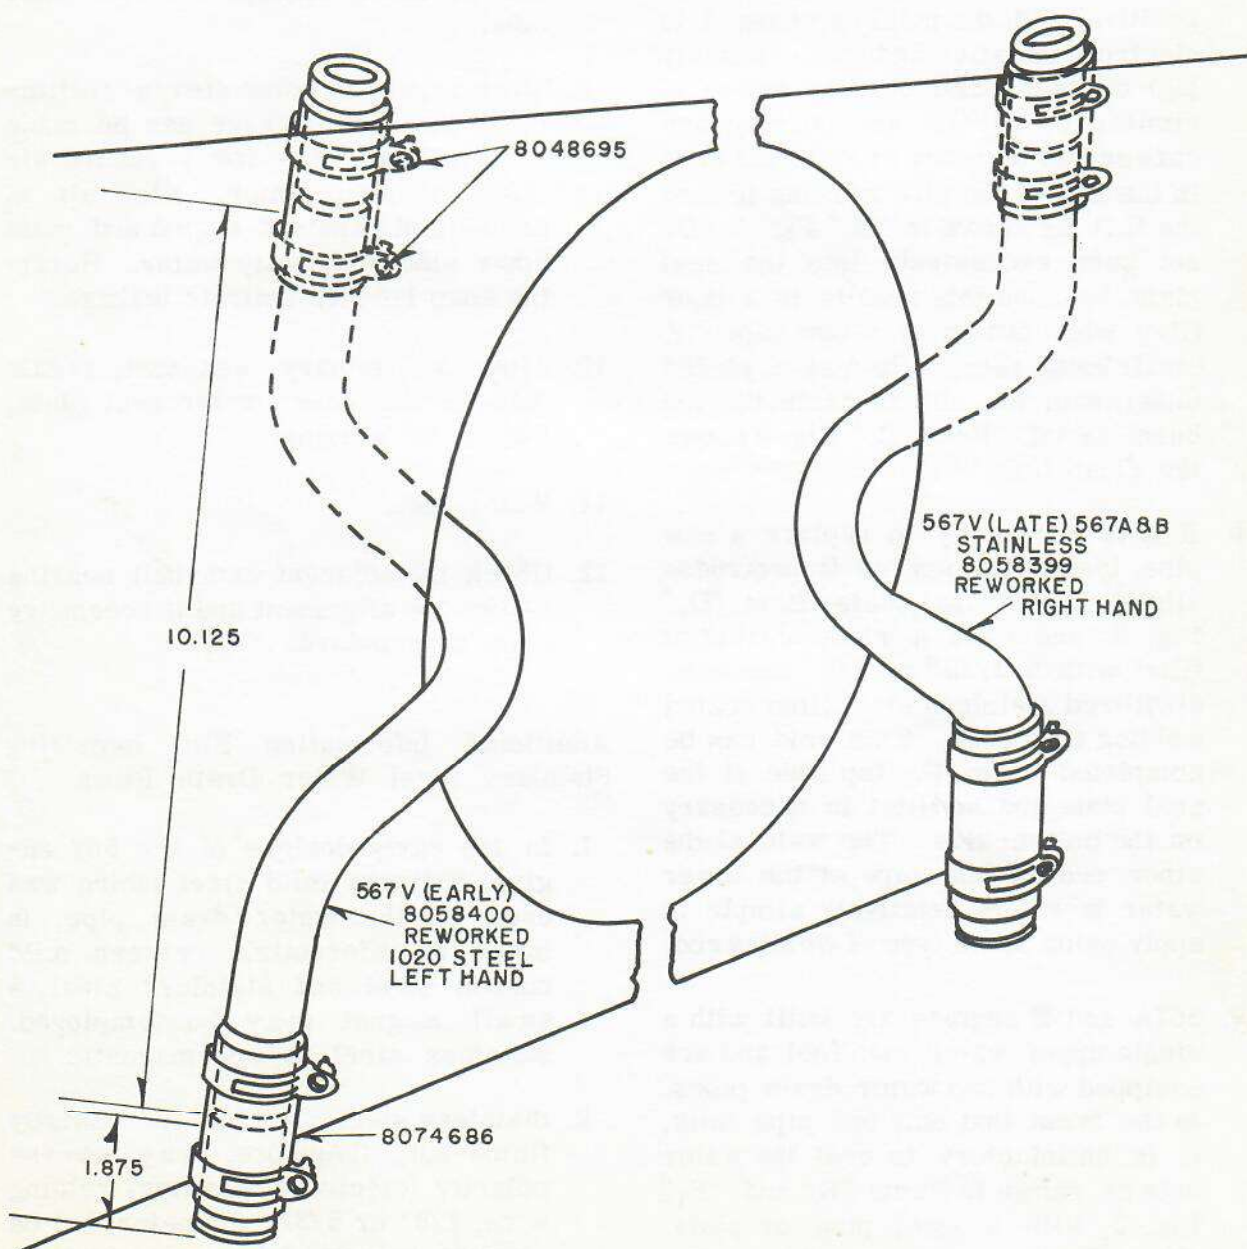

Fig. 2 - Drain Pipe And Hose Application
2. Successful repair can be accomplished by replacement with a new pipe held in position with special rubber hoses and clamps, as shown in Fig. 2. The new replacement pipe must be re-worked by cutting off ends to obtain length needed.